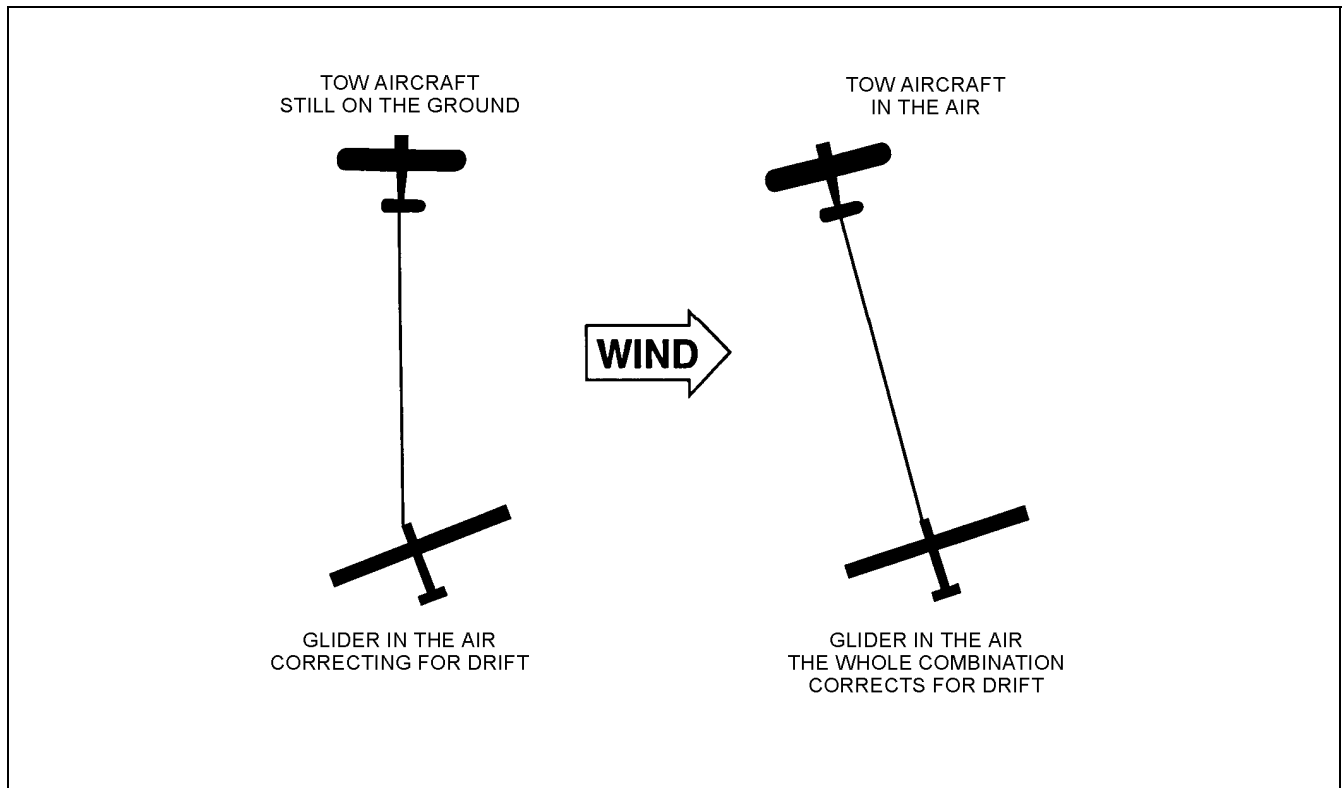

Figure 6-3-8 Crosswind Take-Off – Crab Method
53. Once the tow aircraft is airborne, the tow pilot will apply the necessary crab to maintain runway centreline. The glider should then be manoeuvred directly behind the tow aircraft (see Figure 6-3-8).